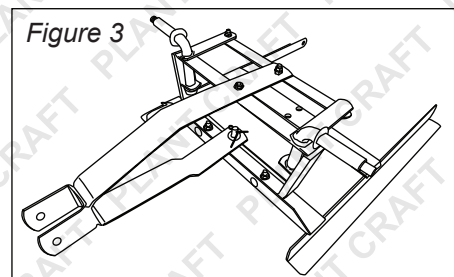

Figure 3
3. See *Figure 3*. Assemble the front axle - attach the front axle (6) to the tray frame (3) using 2 screws (12), washers (14) and nuts (15).